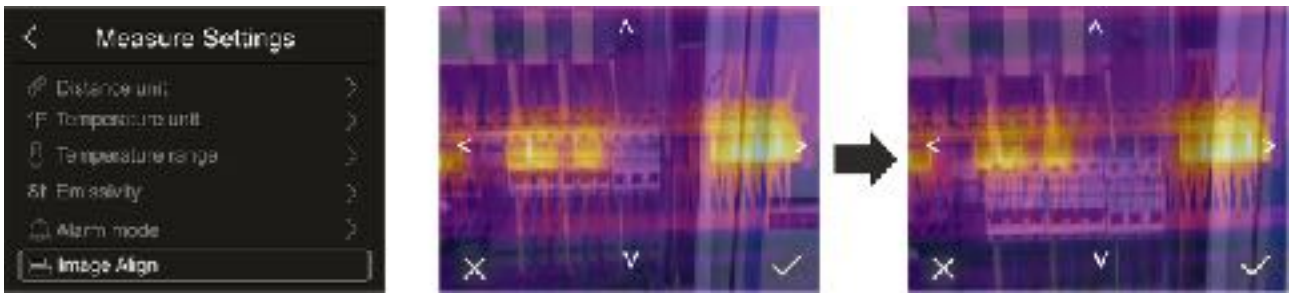

Fig. 27: Alignment of the image on the display
1. Touch the item "Image Align". Fig. 27 – middle is shown on the display. In this figure, the two images with a low infrared value are overlapping.
2. Touch the 4 arrows on the display in order to move the IR image by overlapping it onto the visible one (see Fig. 27 – right side).